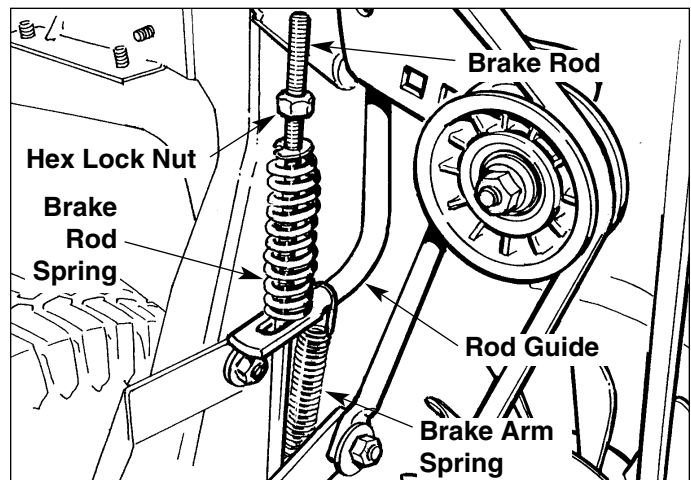

Figure C-27. Rod Guide, Brake Rod, & Springs
2. Slip the brake arm spring off the rear portion of the rod guide (Figure C-27).
3. Remove the hex lock nut from the threaded end of the brake rod (Figure C-27), and remove the spring and rod guide.